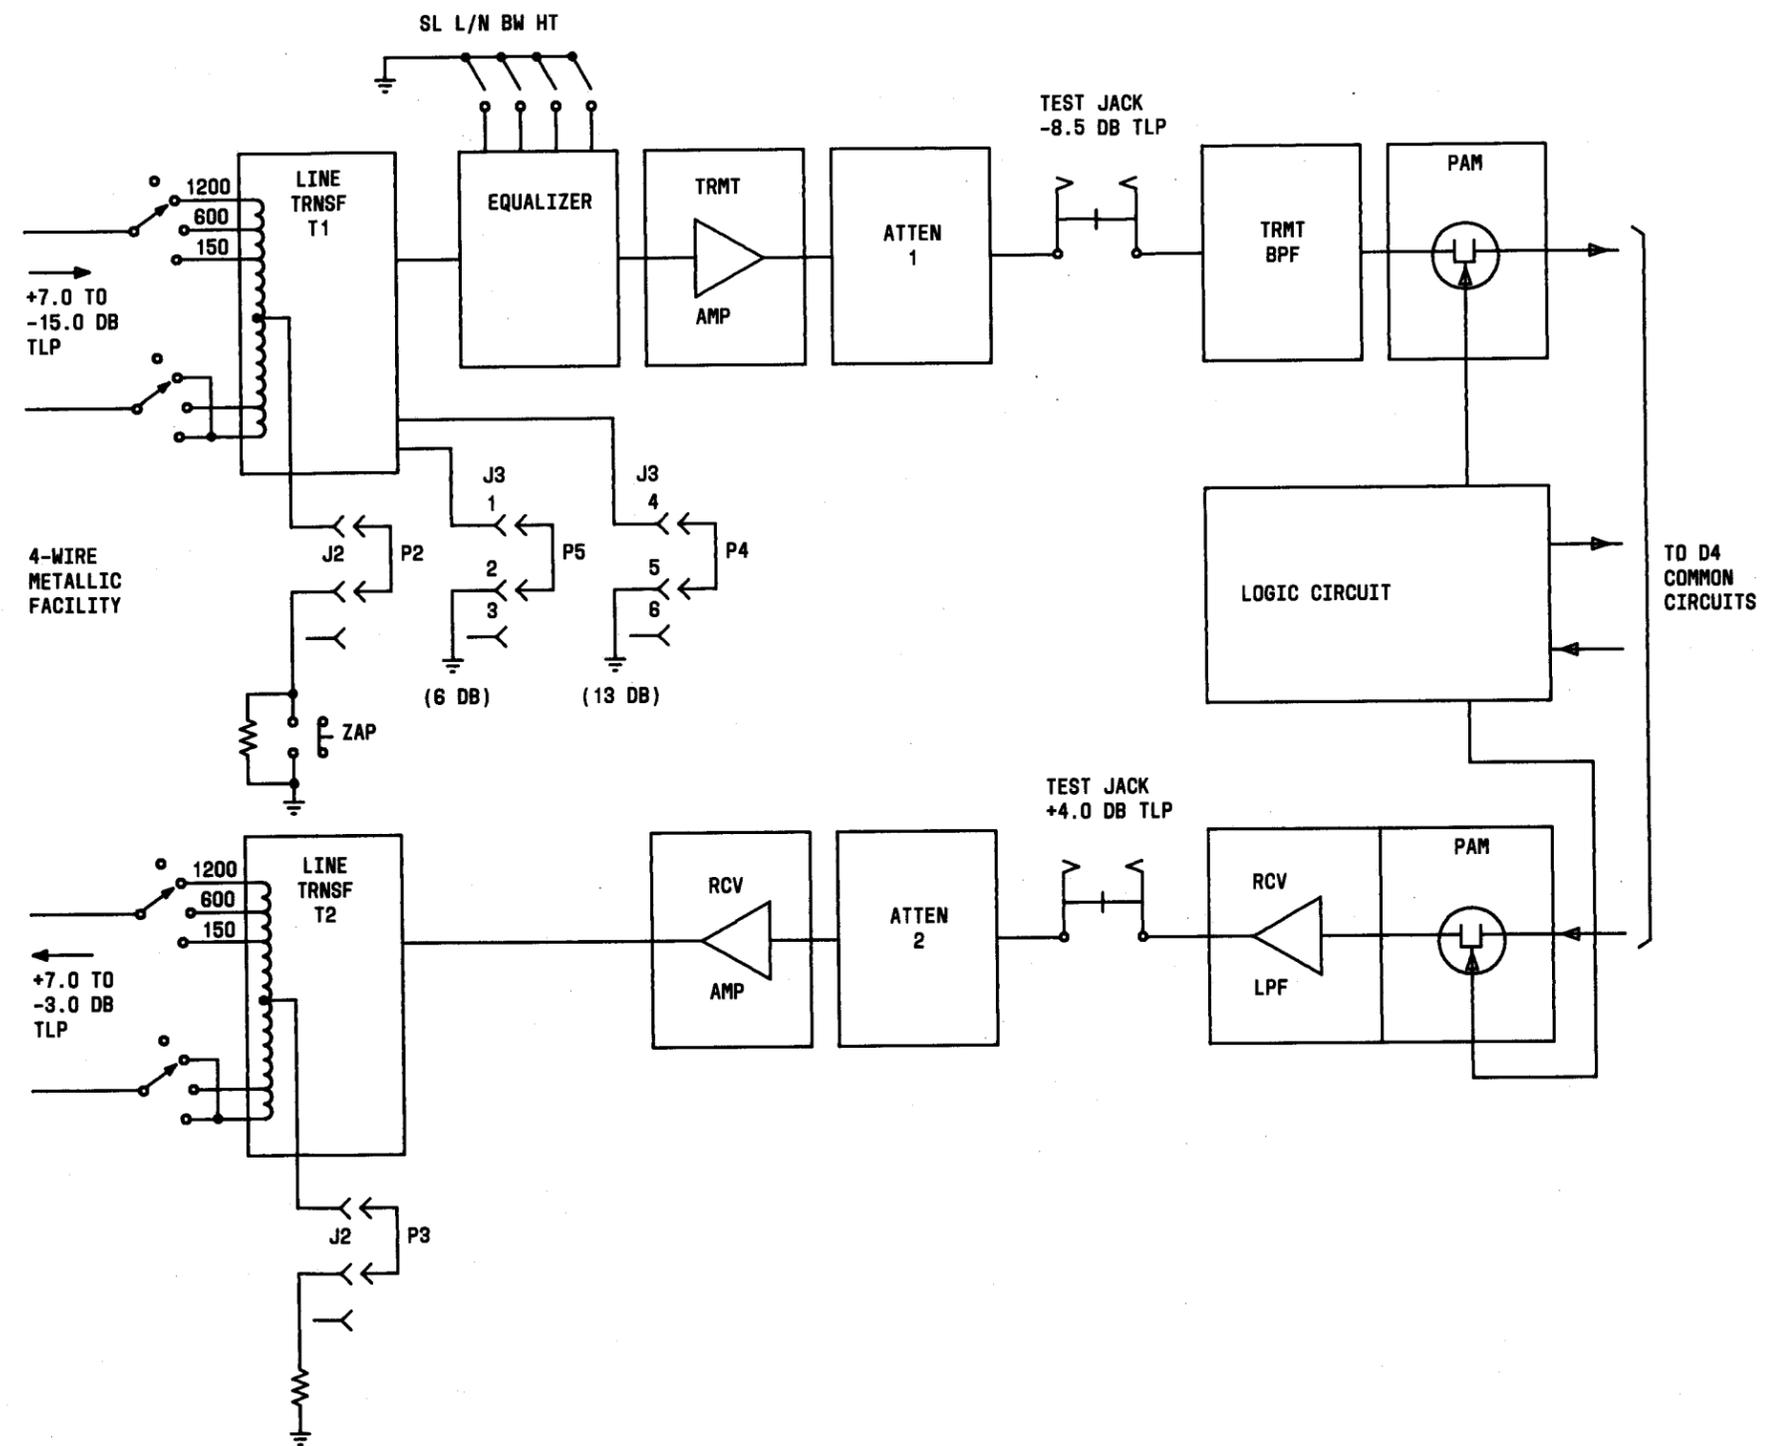

Fig. 4—4-Wire (4TO) Transmission Paths
2.10 The 4TO channel unit is coupled to the 4-wire facility via line transformers T1 and T2 (Fig. 4). A DC sealing current option is used to maintain good conduction when hand wrapped splices are used in the cable pairs. The sealing current of 30 mA is maintained with a ZAP option which momentarily increases the sealing current to 60 mA to clean the splices.